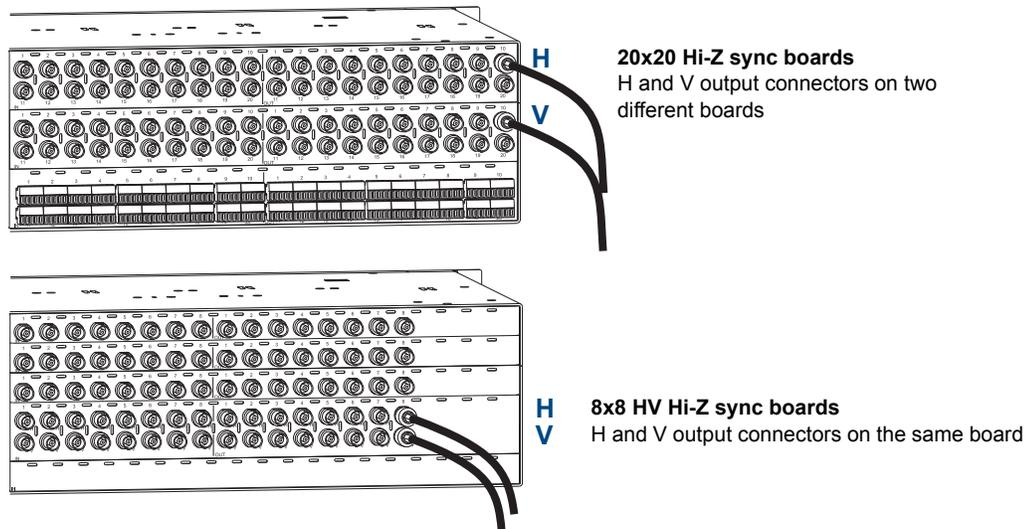

FIG. 30 Fasten cables onto input and output BNC connectors
FIG. 30 has examples of cabling sync boards to route the H and V components of the HV sync signal. In the top example, BNC cables are attached to Output 10 on two Hi-Z sync boards. The bottom example shows BNC cables attached to the H and V connectors of Output 8 on a single 8x8 HV Hi-Z sync board.
1. Fasten the cables onto the input and output BNC connectors (FIG. 30).